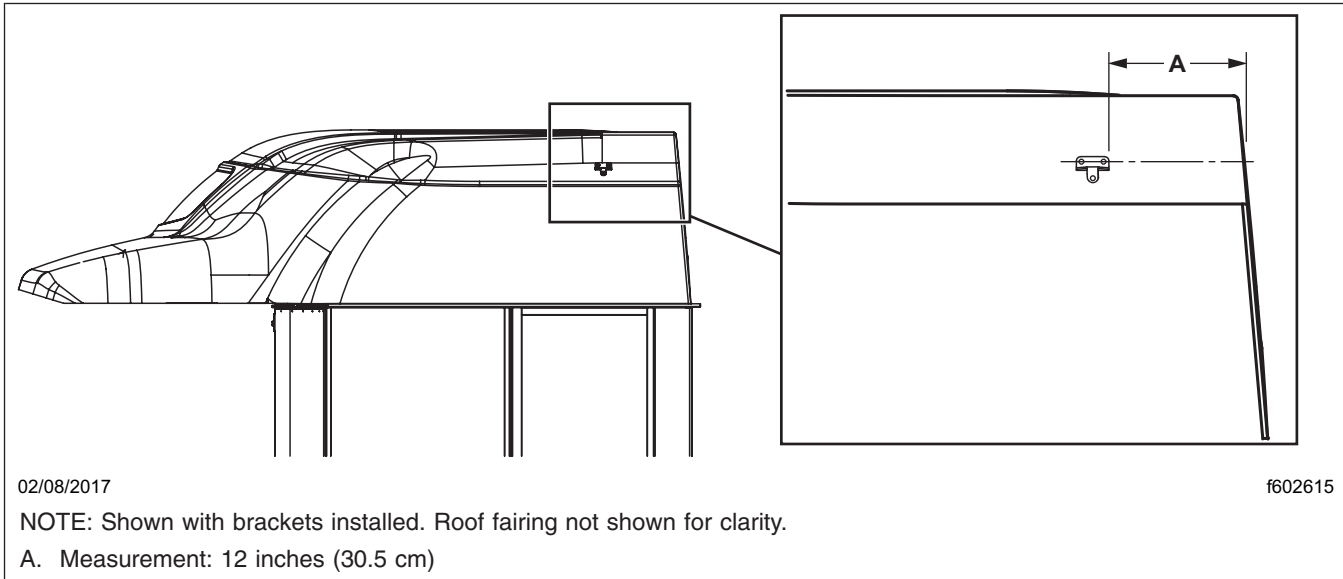

Fig. 11, Locating the Bracket
9. Position the bracket between the roof cap and the fairing, with the rear edge of the bracket 12 inches (30.5 cm) from the rear edge of the roof cap, as shown in Fig. 11. Make sure that the side of the bracket with the two holes rests against the roof cap, and the side with one hole rests against the fairing.